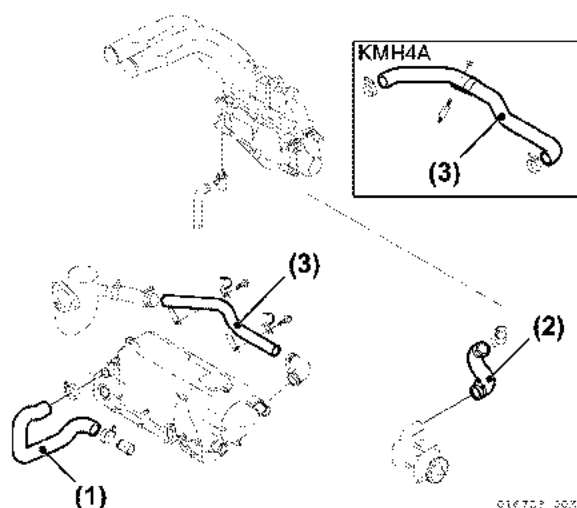

Figure 7-19
3. Disconnect seawater pipe between charge air cooler seawater inlet and seawater pump (Figure 7-19, (2)).
4. Disconnect cooling seawater pipe between charge air cooler seawater outlet and cooling freshwater cooler (Figure 7-19, (1)).
5. Disconnect clamp bolt of pipe between mixing elbow and cooling freshwater or marine gear cooler (Figure 7-19, (3)).